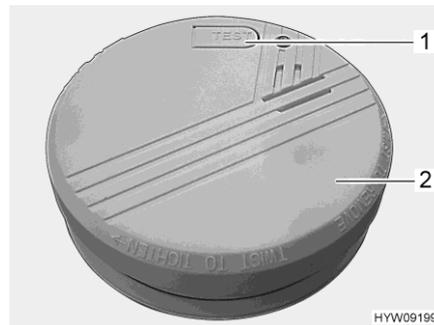

Fig. 54 Smoke alarm
- Press the test button (Fig. 54,1) on the smoke alarm (Fig. 54,2) until the alarm tone sounds. The alarm tone falls silent after the test button is released.